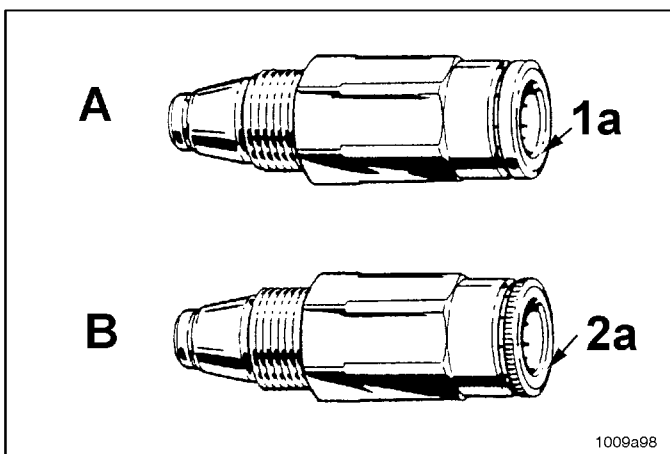

Fig. 5-2 Different types of check valves
- For high-pressure hose (Ø 4.1 x 2.3 mm) use check valve A (fig. 5-2) with reinforced collets 1a and smooth flange (part no. 226-14091-4)
- For pressure plastic tube (Ø 6 x 1.5 mm) use check valve B (fig. 5-2) with standard collets 2a and knurled flange (part no. 226-14091-2)